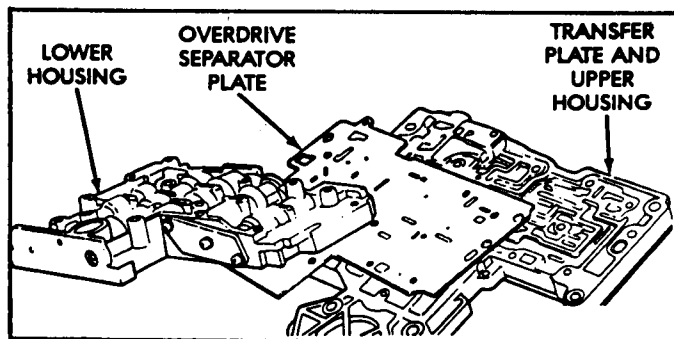

Figure 100
14. Install lower valve body housing on top of spacer plate (See Figure 100).